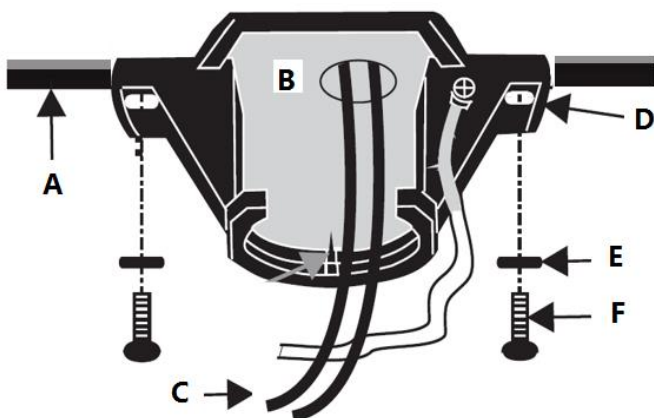

**Fig. 8**
4. Connect the quick connector to the lamp holder part (3). (Fig. 8)
5. Secure the lamp-holder part (3) to the light kit plate by tightening the 3 screws. Do not over-tighten.
6. Install the globes (4) to the lamp holders. Do not exceed the maximum power rating.
7. Install the lamp shade(5) followed by the washer and the nut (6). Tighten the nut (6).
8. Install the decorative cover (7) by tightening the nut (8).